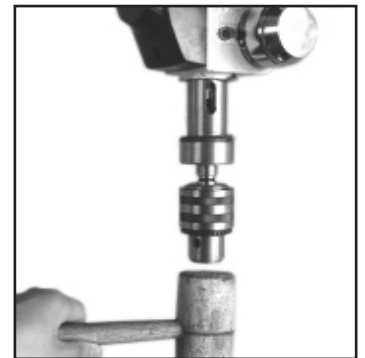

Figure 12
4. Using a mallet or a piece of wood and a hammer, drive the chuck and arbor assembly into the spindle. This will properly seat the chuck assembly on the spindle. Fig. 12.